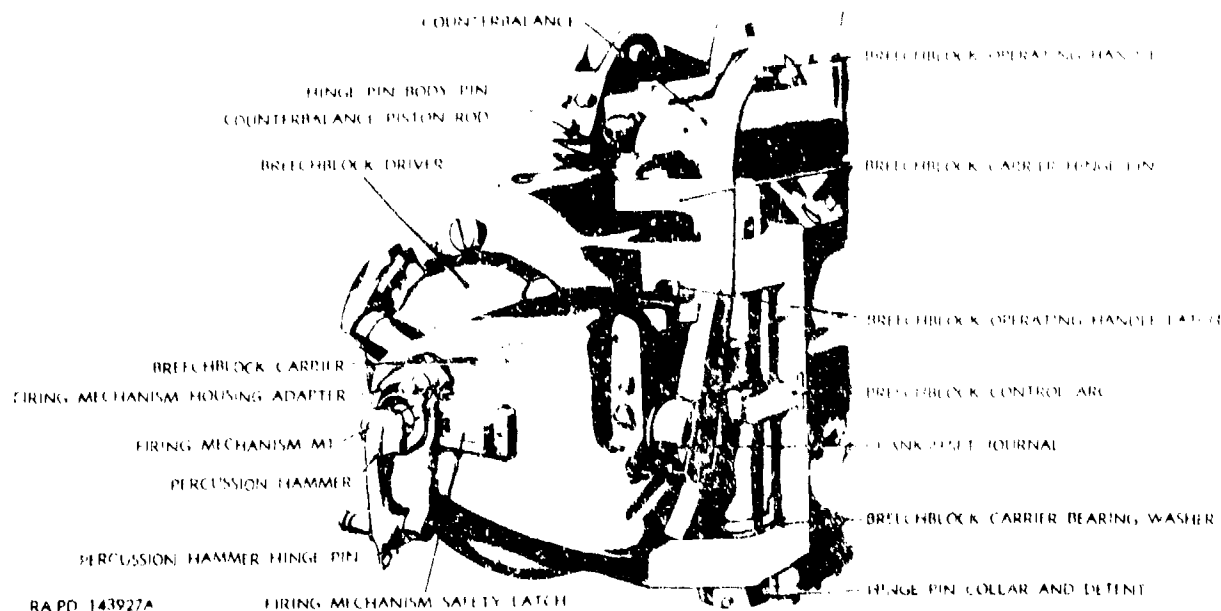

Figure 5-13. Breech mechanism--right rear view.
a. The breech ring is threaded internally and screwed onto the end of the tube. It is locked in position by a key inserted through the upper forward wall of the breech ring. It supports the breech mechanism (fig 5-13) and forms the housing for the breechblock. It has lugs on the top and bottom near the front edge for attaching the counterrecoil and recoil piston rods. Quadrant seats are located on the top of the breech ring.
a. The counterbalance assembly (fig 5-13) is a cylinder with closed ends. The cylinder contains a relatively strong compression spring and is mounted on the breech ring. The spring is compressed between the head of the cylinder and the counterbalance piston. The counterbalance is connected to the breechblock carrier hinge pin by means of the counterbalance piston rod.
a. *Disassembly.* To disassemble the breechblock (figs 5-13, 5-14, 5-15, 5-16, and 5-17)—
- (1) Remove the firing mechanism.
- (2) With the breech mechanism in the closed position, remove the breechblock control arc.
- (3) Open the breech and place the counterbalance cylinder spacer between the shoulder of the eye on the counterbalance piston rod and the counterbalance cylinder head. Then swing the carrier toward the closed position until the eye on the counterbalance piston rod can be lifted over the head of the hinge pin body pin.
- (4) Rotate the breechblock operating handle and swing the breech to the fully open position and remove the firing mechanism housing lock screw. Remove the socket head capscrew and then remove the safety latch stop and spring. Rotate the breechblock operating handle to the closed position and slide the safety latch and safety latch plunger to the right. Unscrew the firing mechanism housing and remove the firing mechanism housing adapter, the obturator spindle assembly, and the gas-check pad